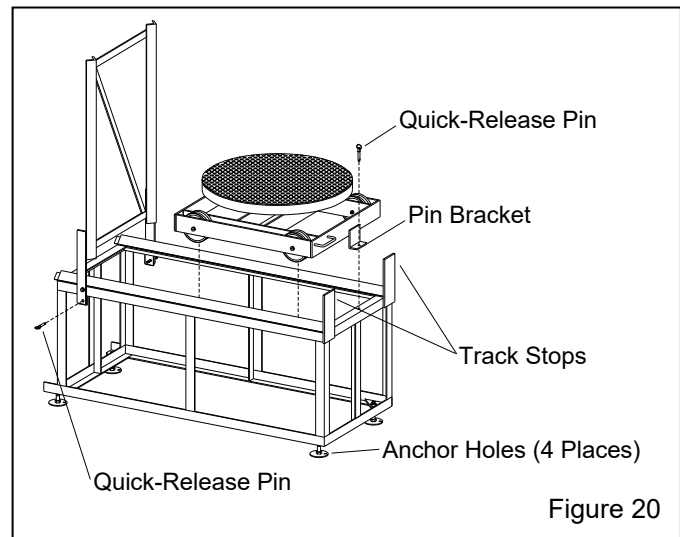

Figure 20
**3.5.4.4** The quick-release pin holds the hinge track when in the raised position, as shown in Figure 20.
### 3.5.5 Turntable workcar and hinge-track operations Figure 20